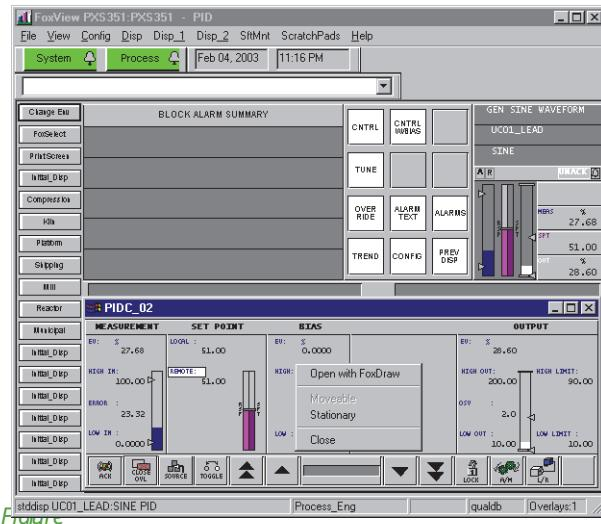

Figure 1. Overlay Display with Shortcut Menu in Base Display (Typical)
- ▶ Overlay display opens as a window within the current FoxView display window (see Figure 1).